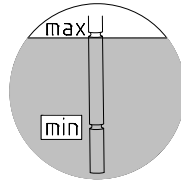

Figure 5-2: Check the oil level with a dipstick
4. Gear units with an oil level vessel: The oil level must be checked **in the oil level vessel** with the aid of the dipstick plug (thread G1 1/4). The oil level must be between the upper and lower mark when the dipstick is completely screwed in (see Fig. 5-2). The oil level must be corrected with the correct type of oil if necessary. These gearboxes may only be operated in the configuration stated in Section 6.1.